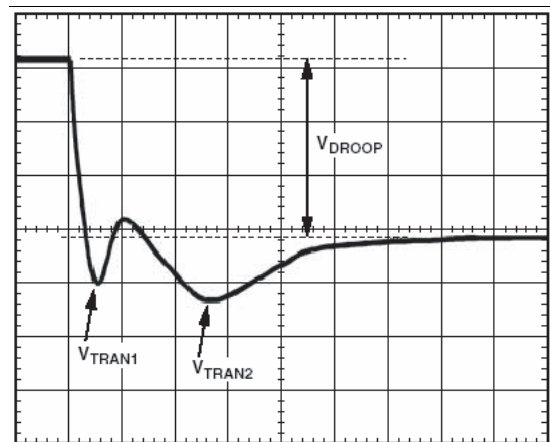
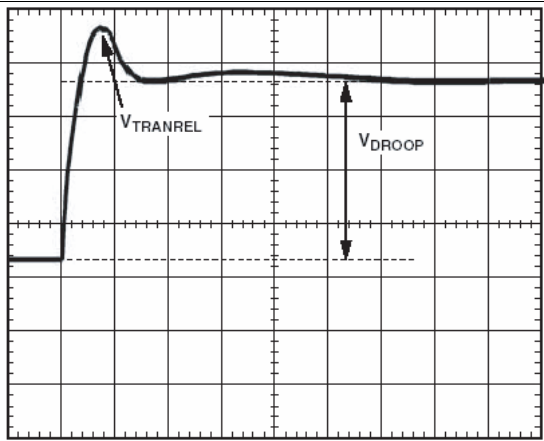

Figure 9. Transient Setting Waveform
Figure 10. Transient Setting Waveform
19. With dynamic load still set at maximum step size, expand scope time scale to see 2 μ s/div to 5 μ s/div. You will see a waveform that may have two overshoots and one minor undershoot (see Figure 9). Here, V_{DROOP} is the final desired value.
21. For load release (see Figure 10), if V_{TRANREL} is larger than V_{TRAN1} (see Figure 9), you do not have enough output capacitance. You will either need more capacitance or to make the inductor values smaller (if you change inductors, you need to start the design over using the spreadsheet and this tuning procedure).